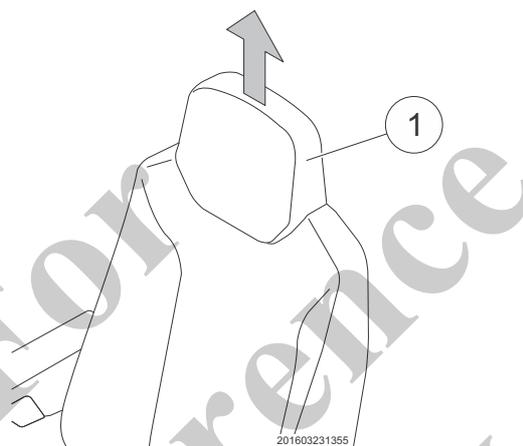

Fig. 63 Adjusting the headrest
- 1 Pull the headrest (Fig. 63/1) up or down until the desired height is reached.